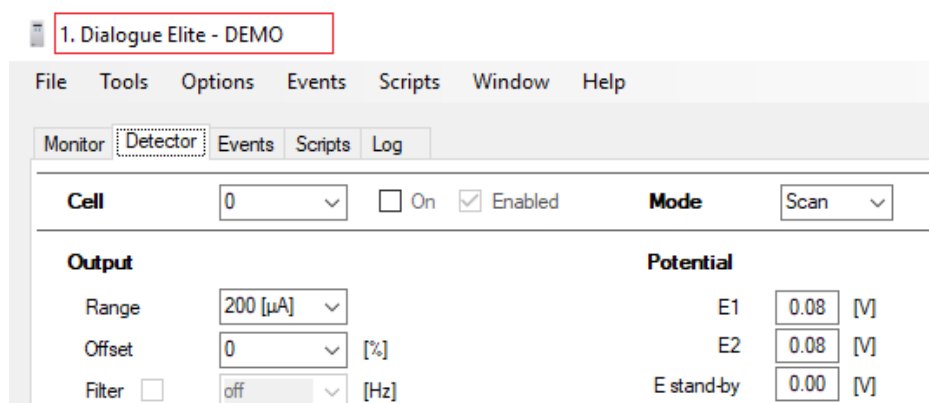

Fig. 1. Screen message if ROXY Potentiostat is not connected.
4. In case no detector is present, Dialogue software will continue running in 'demo' mode (Fig. 1).